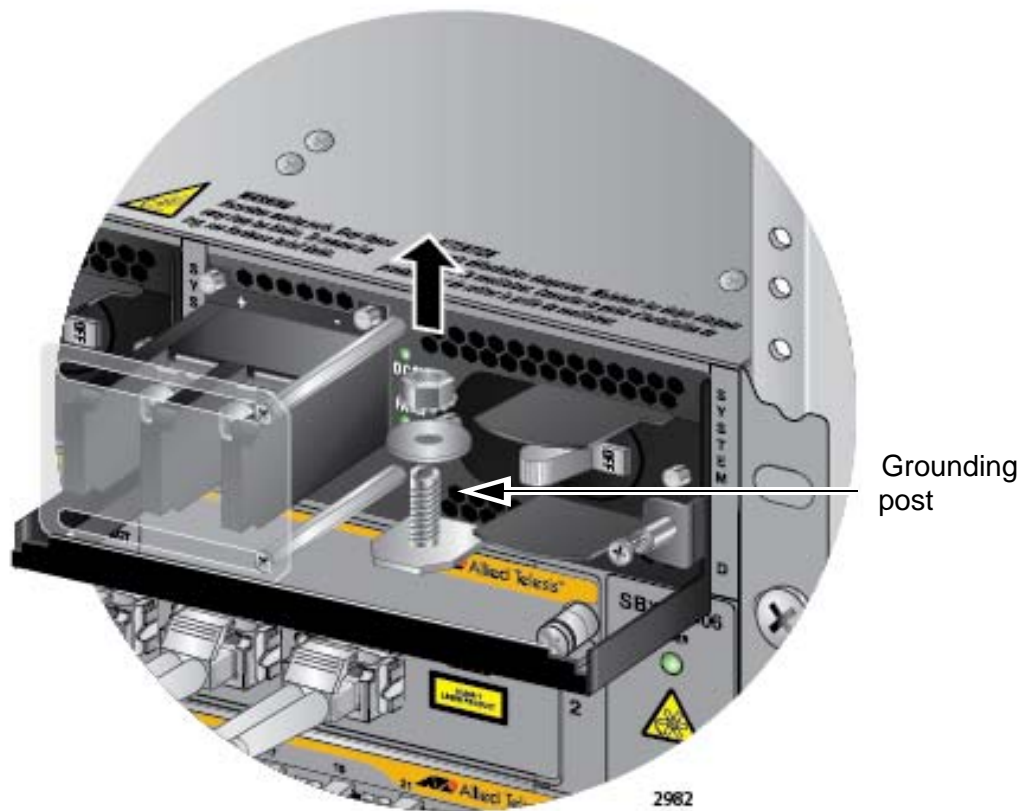

Figure 101. Removing the Nut and Washer from the Grounding Post
3. Use an 8 mm wrench to remove the grounding post nut and washer, shown in Figure 101, from the power supply.
2. Use an 8 mm wrench to remove the grounding post nut and washer, shown in Figure 101 on page 164, from the grounding post on the power supply.